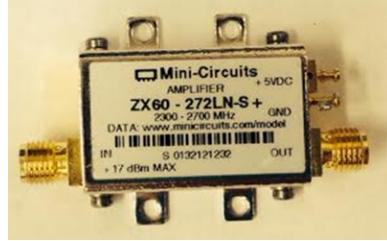

Figure 7: Picture of the Mini-Circuits ZX60-272LN-S+ amplifier.
- 2 × Mini-Circuits ZX60-272LN-S+ amplifier (Fig. 7). Table shows its main specifications (typical values) at room temperature. More detailed specifications can be found in the datasheet (<http://www.minicircuits.com/pdfs/ZX60-272LN+.pdf>⁵).